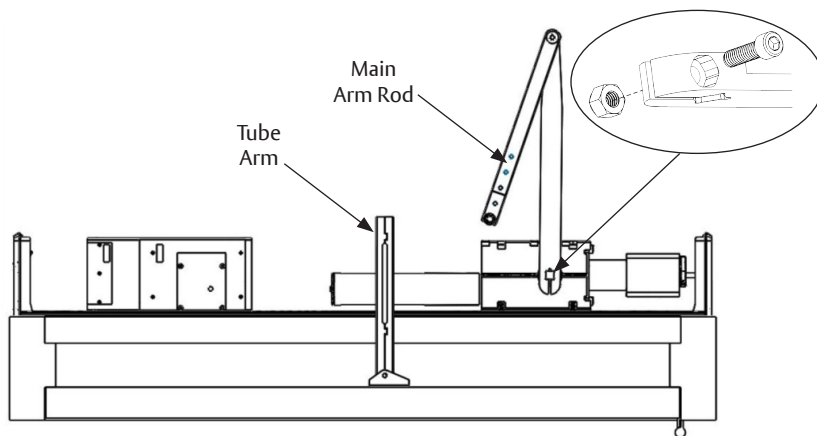

Figure 13 View: Looking up from floor
1. Using hex wrench, secure main arm to bottom pinion with screw and nut. (Figure 13)
2. Slide main arm rod into tube arm. (Figure 13)